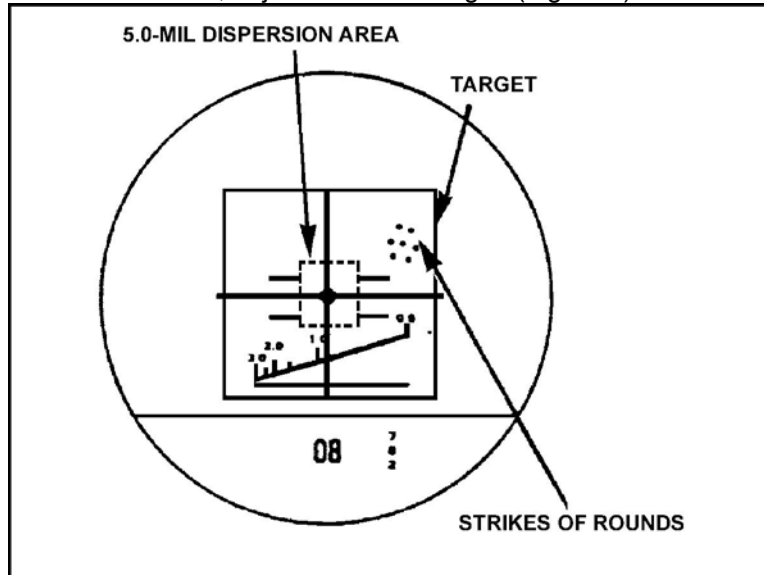

Figure 4. Rounds off center.
- b. If the burst strikes off center, adjust the machine gun (Figure 4).